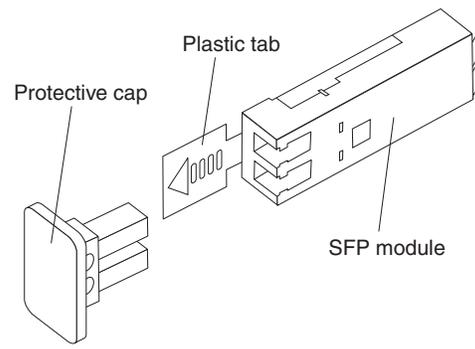

Figure 25. Small Form-Factor Pluggable (SFP) module
2. Remove the protective cap from the SFP module, as shown in Figure 25. Save the protective cap for future use.
2. If necessary, remove the protective cap from the SFP module, as shown in Figure 25 on page 43. Save the protective cap for future use.